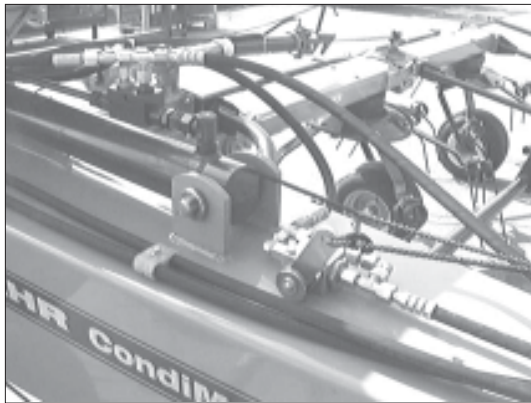

Fig. 3-9
3. Then pull the rope of the stop valve for the chassis cylinder to raise the axle to the end position (fig. 3-9 / fig. 3-10).